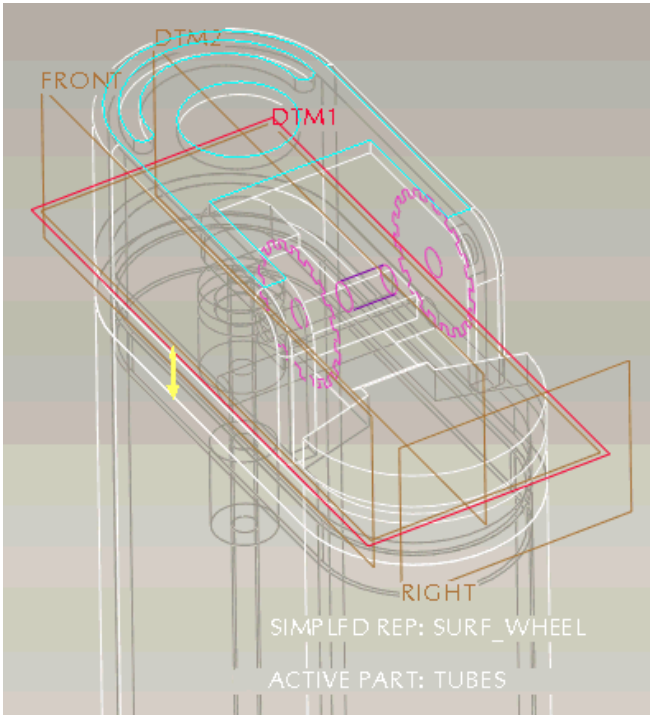

Figure 8
7. Select the Create Features radio button and OK from the Creation Options dialog box. Click Insert > Extrude > Placement > Define. Select DTM1 from `button.prt` as the sketching plane and RIGHT as the sketching reference with a Right orientation, as shown in Figure 8. Point the arrow downwards for the direction of feature creation.